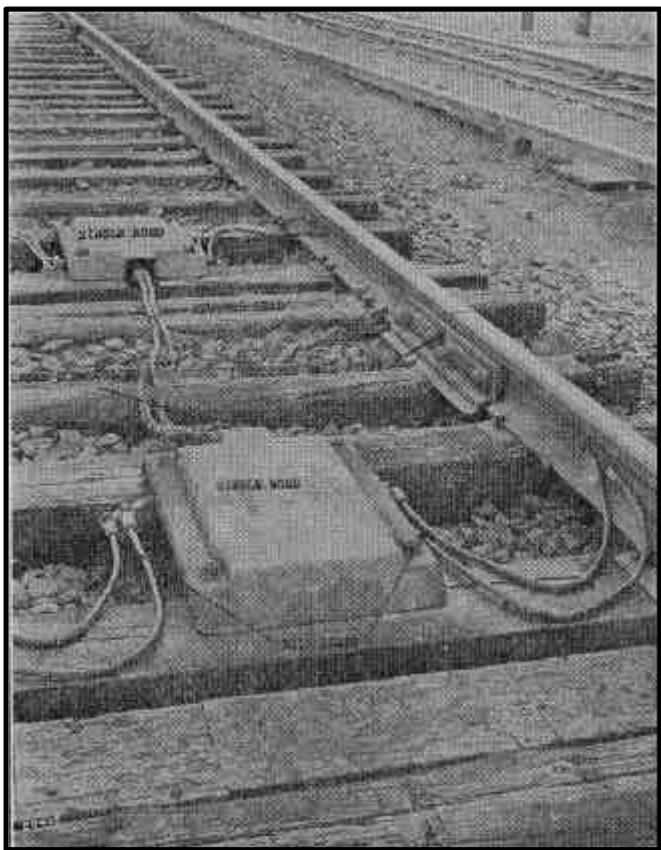

FIG. 3—IMPEDANCE BOND
E. Loose or broken impedance bond connections in the tracks must be regarded as energized (live) and reported immediately to the Superintendent. See Fig. 3.